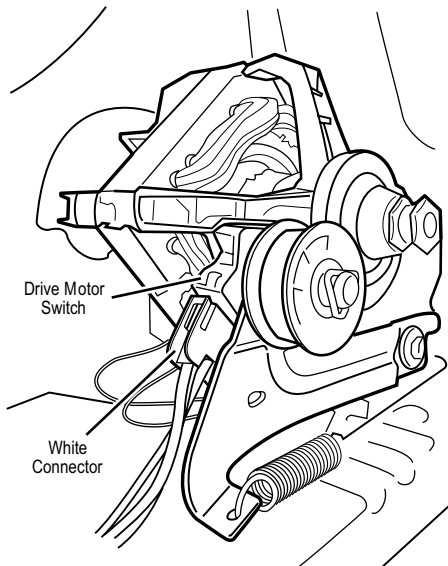

Figure 6. Remove white connector.
6. Remove the white connector from the drive motor switch. See Figure 6.